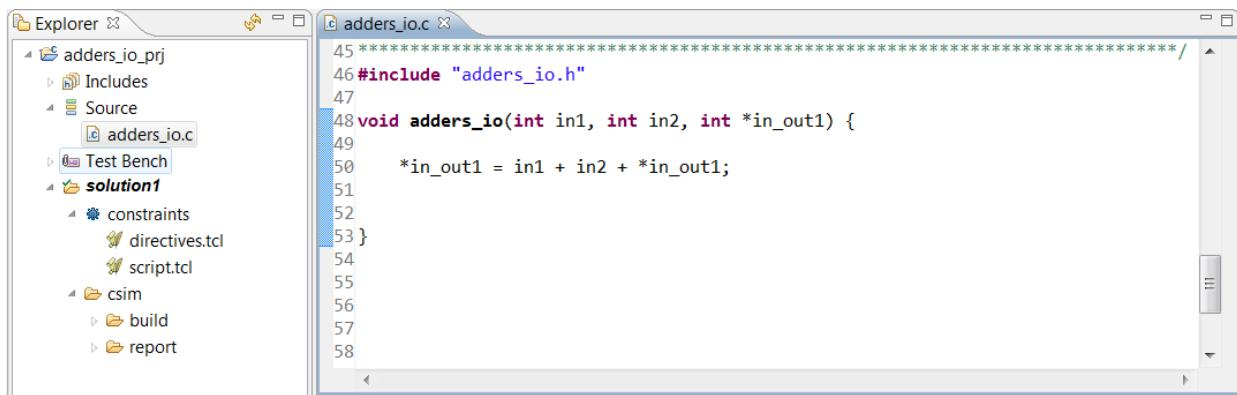

Figure 4-12: C Code for Interface Synthesis Lab 2
- Open the source code as shown in Figure 4-12.
For the code shown in Figure 4-12, the possible options for each function argument are described in Table 4-2.